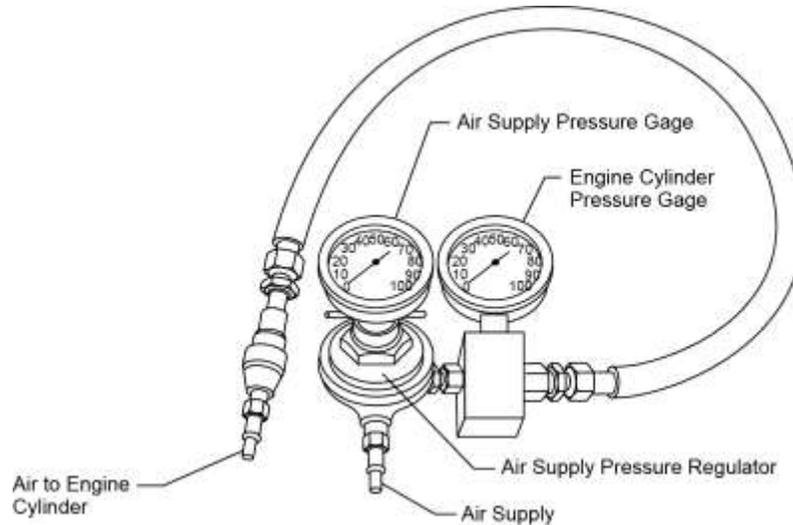

Figure 2
- A. Install a new tachometer drive oil seal (Figures 2 and 7) on the accessory housing.
- I. Install a new accessory housing gasket (Figure 2) over the locating dowels on the rear of the crankcase.
A differential compression tester (Figure 2), attached to pressure gages is used for the Cylinder Compression Check. This tester operates with a given airflow through a fixed orifice and measures constant pressure drop across that orifice. This Cylinder Compression Check identifies leaks caused by incorrect valve seating, worn piston rings, damaged pistons or damaged cylinders. The static leak rate can indicate the condition of the parts in the combustion chamber. The leak rate is measured when pressure drops.